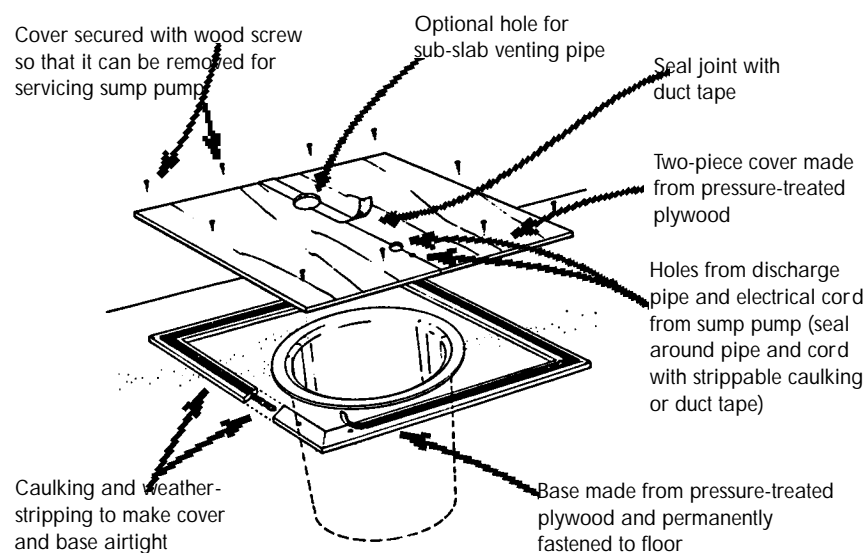

Figure 8: Sealing open sumps
- **Open sumps** – Sumps can be fitted with an airtight cover (see **figure 8**). If the sump also acts as a floor drain, add a special trap to the airtight cover and slightly recess the cover into the sump.
- Use a sealed lid on the sump. Your builder may either purchase a sealed unit or field fabricate a sealed lid (refer to **figure 8, page 14**). A sealed lid keeps out radon as well as moulds, odours, insects and cold drafts. It also reduces the risk of injury to small children.